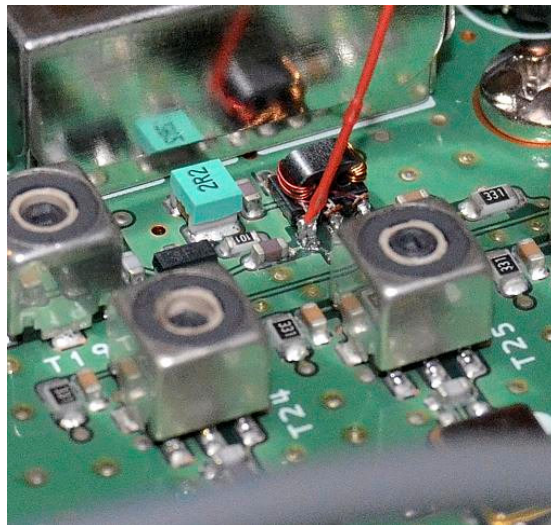
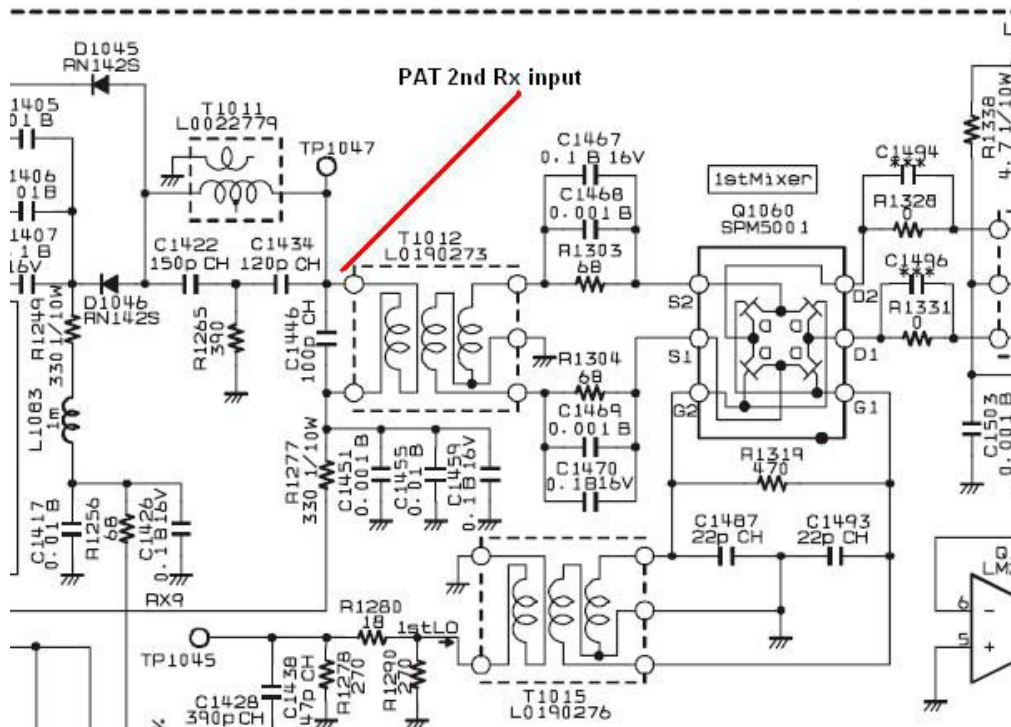
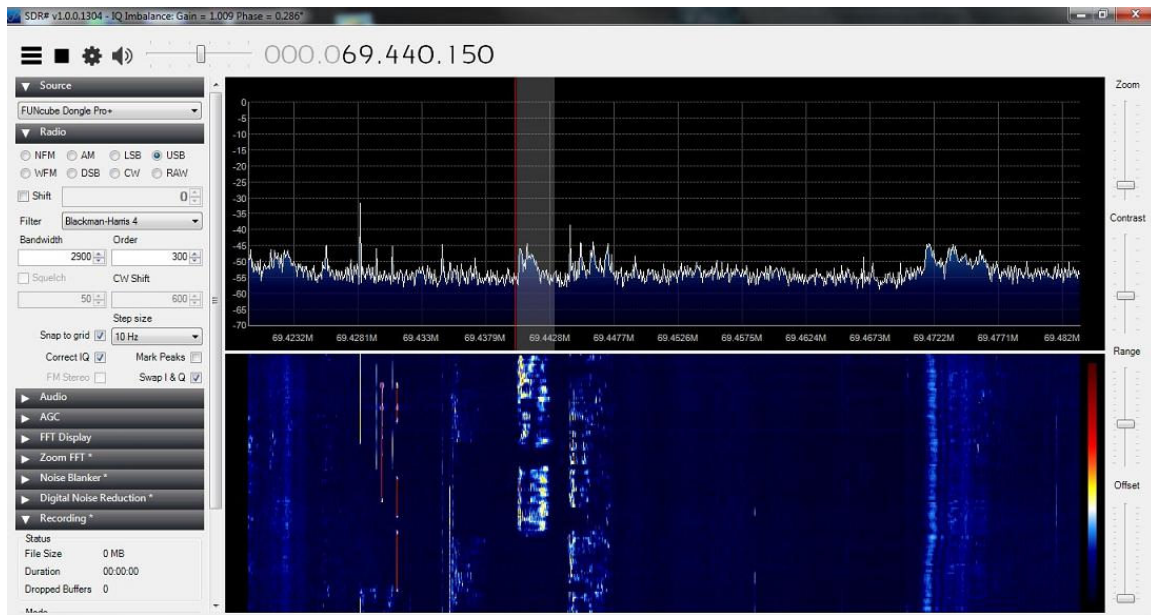

Fig 4 – Wire connection at T1020 for PAT
Fig 6 – PAT input for 2nd Rx function – other connections also shown
Fig 9 – SDR display with PAT connected as IF Panoramic Adaptor
- 7 Prepare a 70mm length of red wire to make the connection between T1020 and the PAT input, and a 170mm length of RG178 for the output connection. Dimensions for preparing the ends of the cables are given in Table 1 and Fig 9. Do not pigtail the ends of the coax, but make them off as in Fig 4. See also details at the end of this note.
PAT may also be used to take an output before the first mixer, so that your SDR will provide a wider spectrum view of the band that you are using. The Vcc and output connections are as given above, but the input connection needs to be taken from T1012, as shown in Fig 6 below. T1012 itself is inside the screening can behind T1020 in Fig 4 above. However, TP1047 is directly behind that can, and accessible from outside the can, so this is the recommended physical point to make the connection.
In Fig 9, the bandwidth of the display is limited by the SDR – in this case, it is showing about 60kHz of the 40m band, roughly centred on 7055kHz. The advantage of this mode is that as you tune the radio, the signals move across the display. However, it is not possible to set the rig frequency display on the SDR.